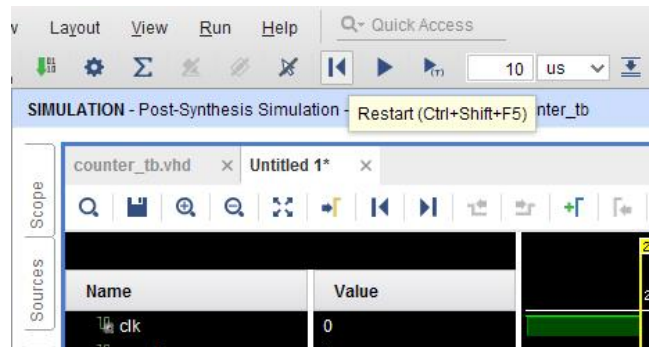
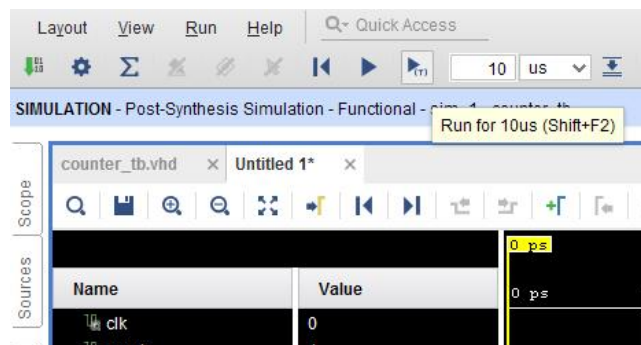

Figure 24
Figure 25
5. To view the new signal waveform, we need to restart simulation clicking on the **Restart** icon (Figure 24) and running simulation again by clicking on the **Run** icon (Figure 25)